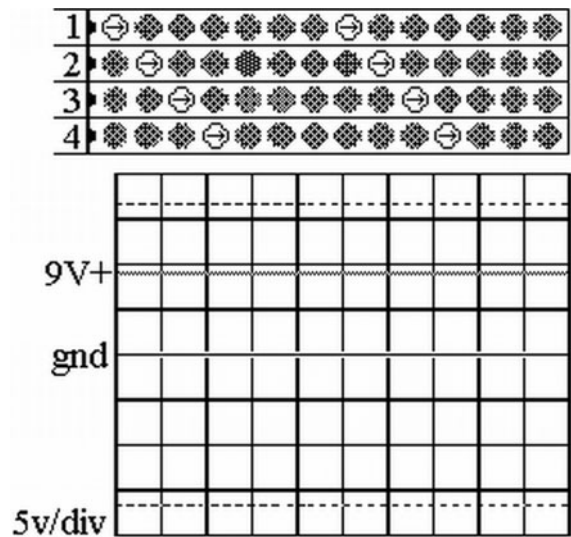
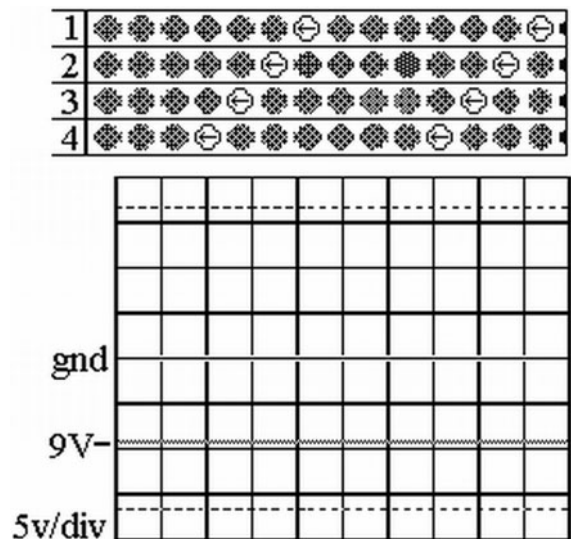

Figure L53-1
Figure L53-2
We always hear the terms *direct current* (DC) and *alternating current* (AC). Direct current means that the current in the system is always flowing in one direction. Electronics depends on direct current. Naturally, flowing water has been a good comparison for positive DC voltage V+. Water always flows in one direction—downhill, toward the lowest point. Direct current is easily generated by chemical reactions in batteries. Figure L53-1 shows positive movement of electrons while the scope shows the voltage is above ground. So the voltage pushes the electrons one way. However, what happens when the voltage is reversed and pushes the electrons the “other way”? Figure L53-2 shows us how that really works.